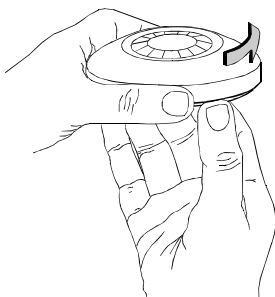

Figure 2. Removing the Cover
A. Hold the base with one hand as shown in Figure 2. Rotate the cover counterclockwise with the other hand, until it stops. Separate the cover from the base, and put it in a safe place, to avoid accidental damage.
- B.** Remove the cover (see Fig. 2) and set the shortest operation time – the TIME control fully clockwise.